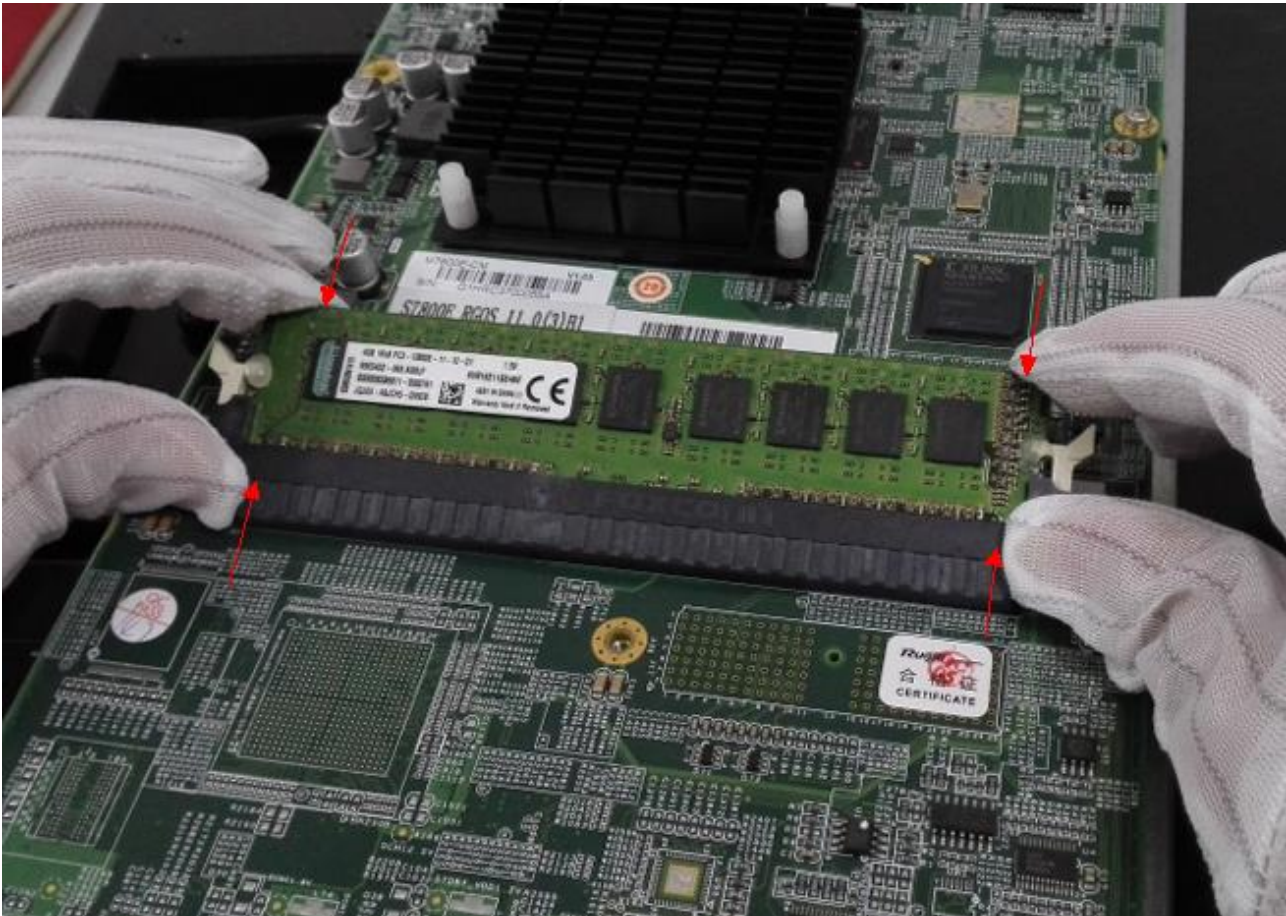

Figure 4
Step 3: Hold both ends of the memory module and socket with index fingers and thumbs, and press the memory module into the socket with force along the direction parallel to the memory module, as shown in Figure 4.